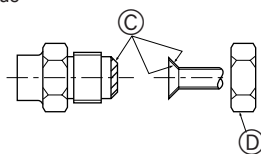

Fig. 4-1
4.2. Connecting pipes (Fig. 4-1)
- Apply thin layer of refrigerant oil to pipe and joint seating surface before tightening flare nut. ①
- Use two wrenches to tighten piping connections. ②
- Apply refrigerating machine oil over the entire flare seat surface. ③
- Use the flare nuts as follows. ④
① (Fig. 4-1)
② (Fig. 4-1)